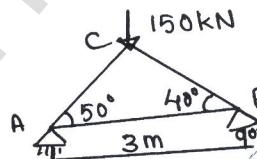

Fig.Q5(b)
b. Determine the vertical deflection of joint C of the truss shown in Fig.Q5(b). Take  $E = 200 \times 10^6 \text{ kN/m}^2$  and cross sectional area of each bar as  $150 \times 10^{-6} \text{ m}^2$ . (08 Marks)